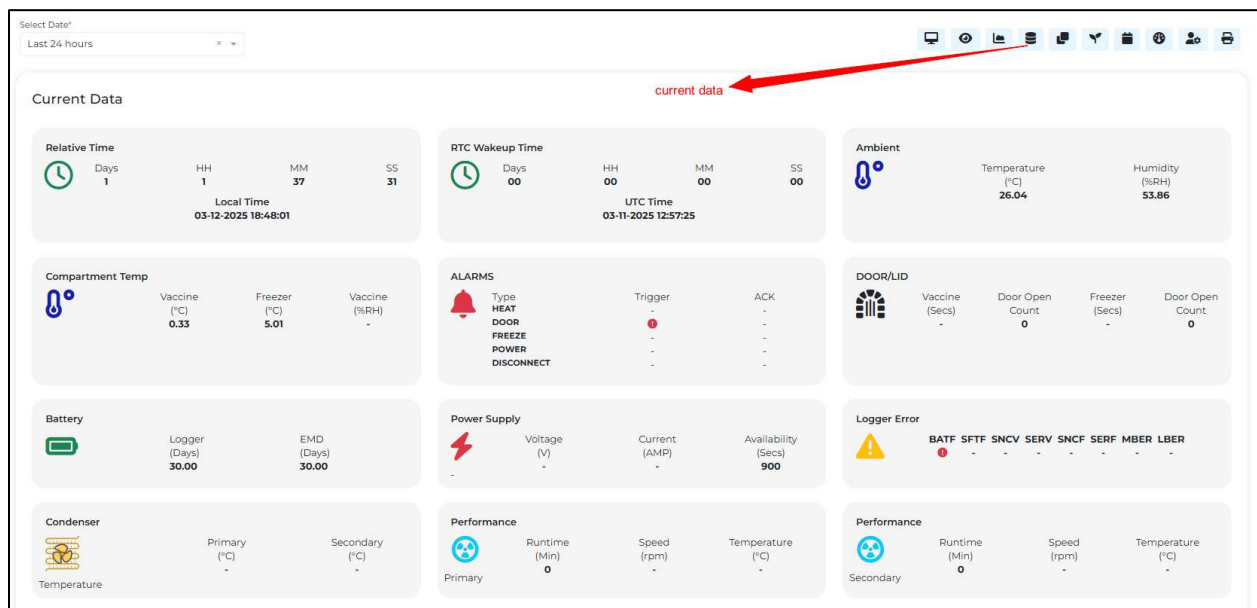

Figure 51 Current Data view Dashboard for selected device
- Most recent data record for the device is shown as current data on the dashboard in cloud application as seen in the figure 51.